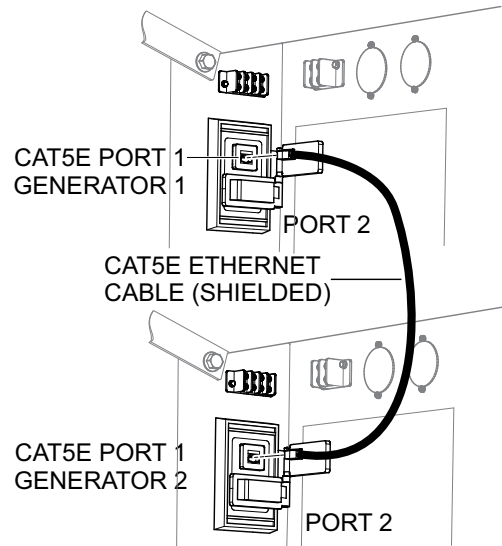

Figure 3. Ethernet Cable Connection
1. Connect a CAT5E Ethernet cable (shielded) between port 1 on both generators as shown in Figure 3.